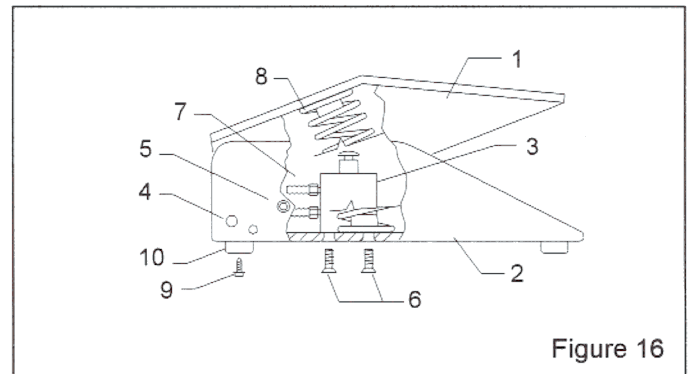

Figure 16
9.3 Foot Pedal Assembly, Figure 16